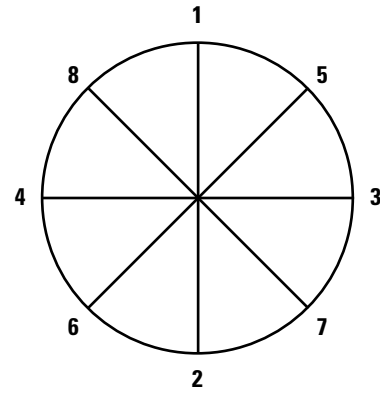

Fig. 62. Follow star pattern to avoid “cocking” of the seal.
- When using this method, follow a star pattern (as shown in Fig. 62) to avoid “cocking” of the seal.
- Place the ends of the wooden block at positions 1 and 2 (as shown in Fig. 62).